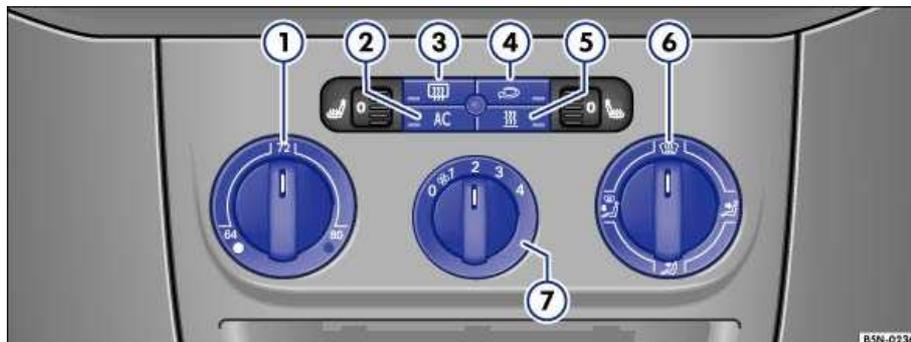

Fig. 102 Climatic controls in the center console.
– Press the  button to switch the air recirculation mode on or off ⇒ Fig. 102. When it is switched on, a yellow indicator light in the button comes on.